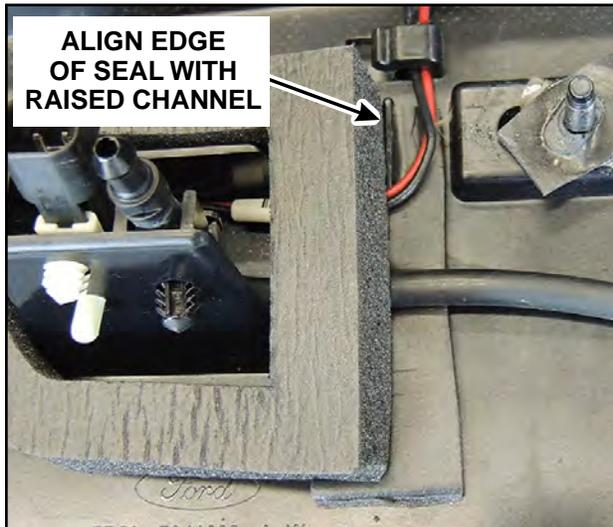

FIGURE 14a
6. Install a *new* liftgate spoiler tower seal. The flat edge of the seal must be aligned with the raised channel on the spoiler. See Figures 14a and 14b.